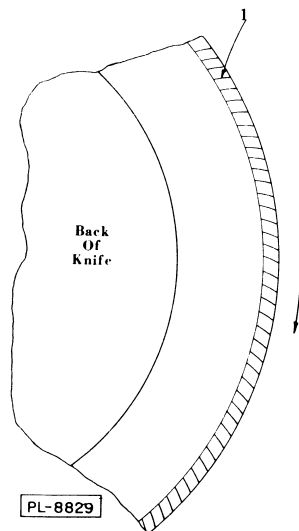

Fig. 6
- 7.10 Check to make sure that the characteristic grind marks (1, Fig. 6) are plainly visible on the ground surface, if not the grinding wheel is not cutting. (Many operators try to sharpen a knife with a grease-loaded stone which will not cut).